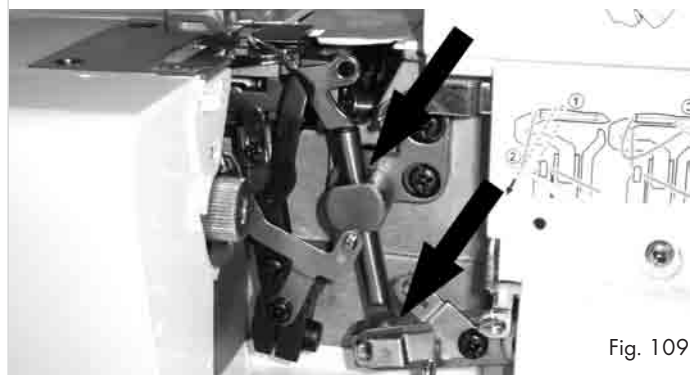

Fig. 109
- Lubricate the machine regularly at the lubrication points shown on Figure 109. For this use exclusively sewing machine oil.